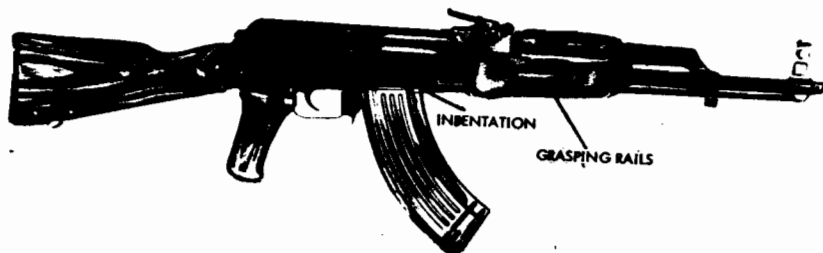

Figure 38. 7.62-mm modernized Kalashnikov assault rifle (AKM).
a. The modernized Kalashnikov assault rifle (fig. 38), while basically similar to the AK-47, has a number of features which differ from the earlier weapon. The major change is in the receiver, a stamped component in the AKM, but a forged-and-machined component in the AK-47. The two weapons are mechanically identical except that the AKM has a cyclic rate reducer in its trigger mechanism. The AKM can be recognized by its sheet metal receiver with a small magazine guide dimple pressed into each side, by the grasping rails on the forestock, by the ribbed receiver cover, by the presence of a bayonet lug, and by the absence of vent holes in the gas tube.